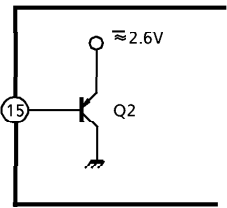

Fig.3
(2) Equalizer control switch
Pin⑮ is coupled to the base of Q2 (PNP-Tr) as shown Fig.3.